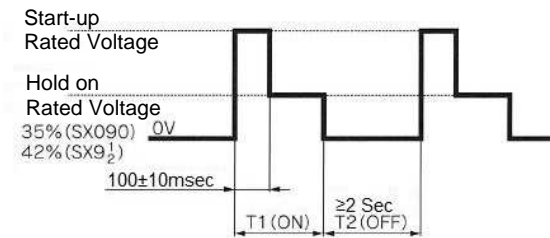

Figure 1. Energisation waveform
- When using a valve without the power saving circuit, energise as shown in figure 1. using the voltages from table 2.